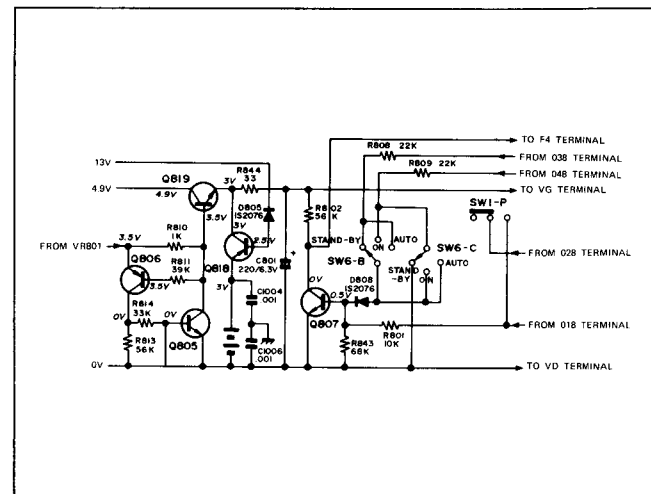

Figure 27
■ CONTROL UNIT POWER SUPPLY CIRCUIT (See Figure 27 and 28)